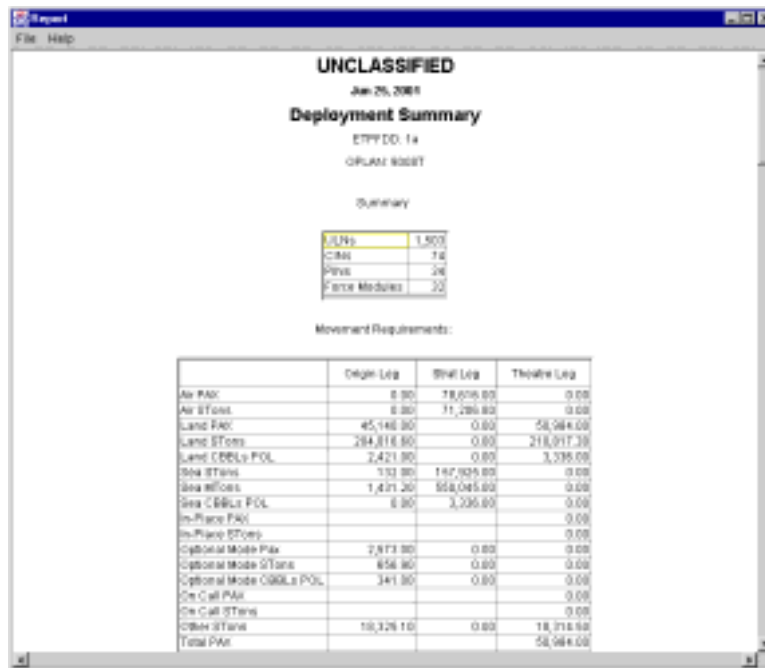

Figure 5.143 Sample Report Window
6. Select a report name from the submenu. The corresponding report name is highlighted, and after a few seconds the report is displayed in a new window (Figure 5.143).